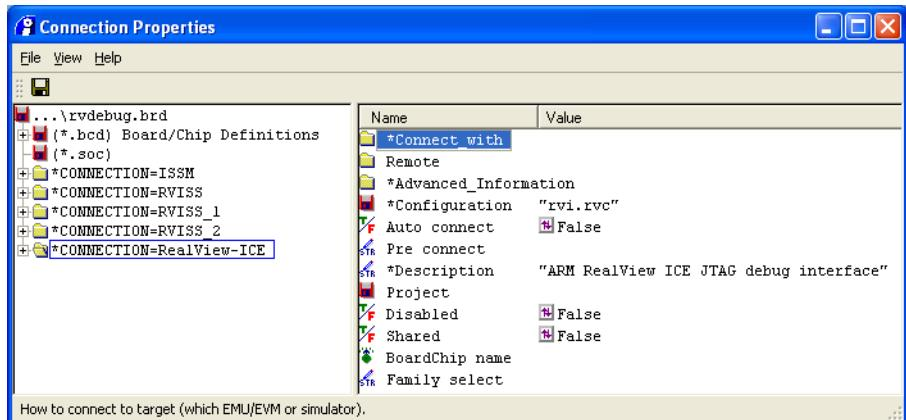

Figure 3-9 Connection Properties window
3. Click the **Advanced** button. The Connection Properties window is displayed. Figure 3-9 shows an example: